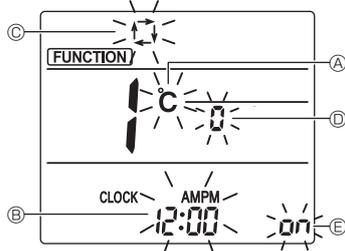

Fig. 7-10
| Item             | Setting                         | Fig. 7-10 |
3. Check that function No. "1" is displayed, and then press the **SET** button ③. The display setting screen will be displayed. (Fig. 7-10)